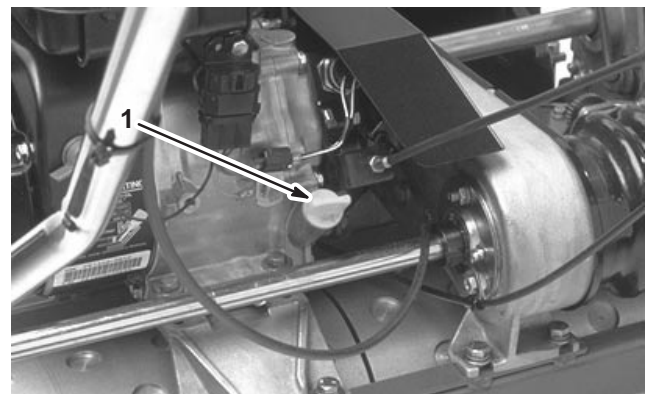

Figure 7
1. Position the mower so the engine is level (Fig. 7).